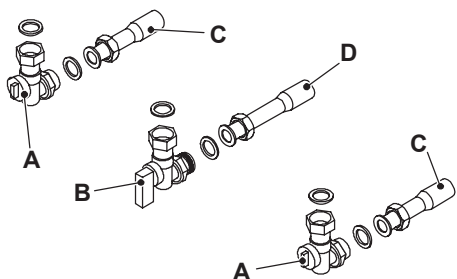

Fig. 6.3
- Fix the c.h. valves A and gas cock B ($\frac{3}{4}$ " to the boiler using the $\frac{3}{4}$ " gaskets (Fig. 6.3)